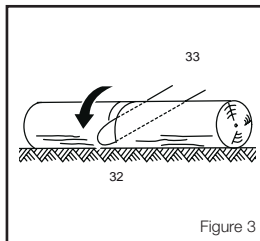

Figure 3
1. When the log is supported along the entire length, it is cut from the top (Fig 3) (over buck).